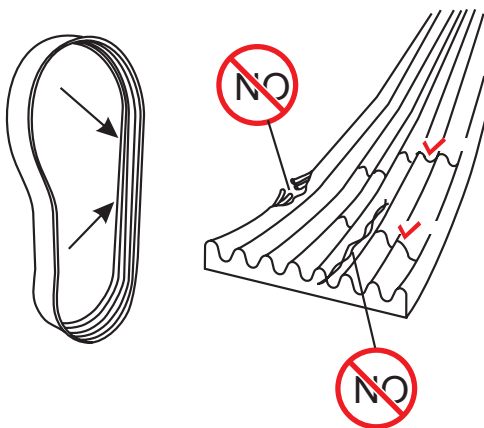

Figure 35. Wear And Tear Check
2. Regularly check the poly V-belt for wear. If wear is detected (Figure 35), the belt must be replaced immediately.